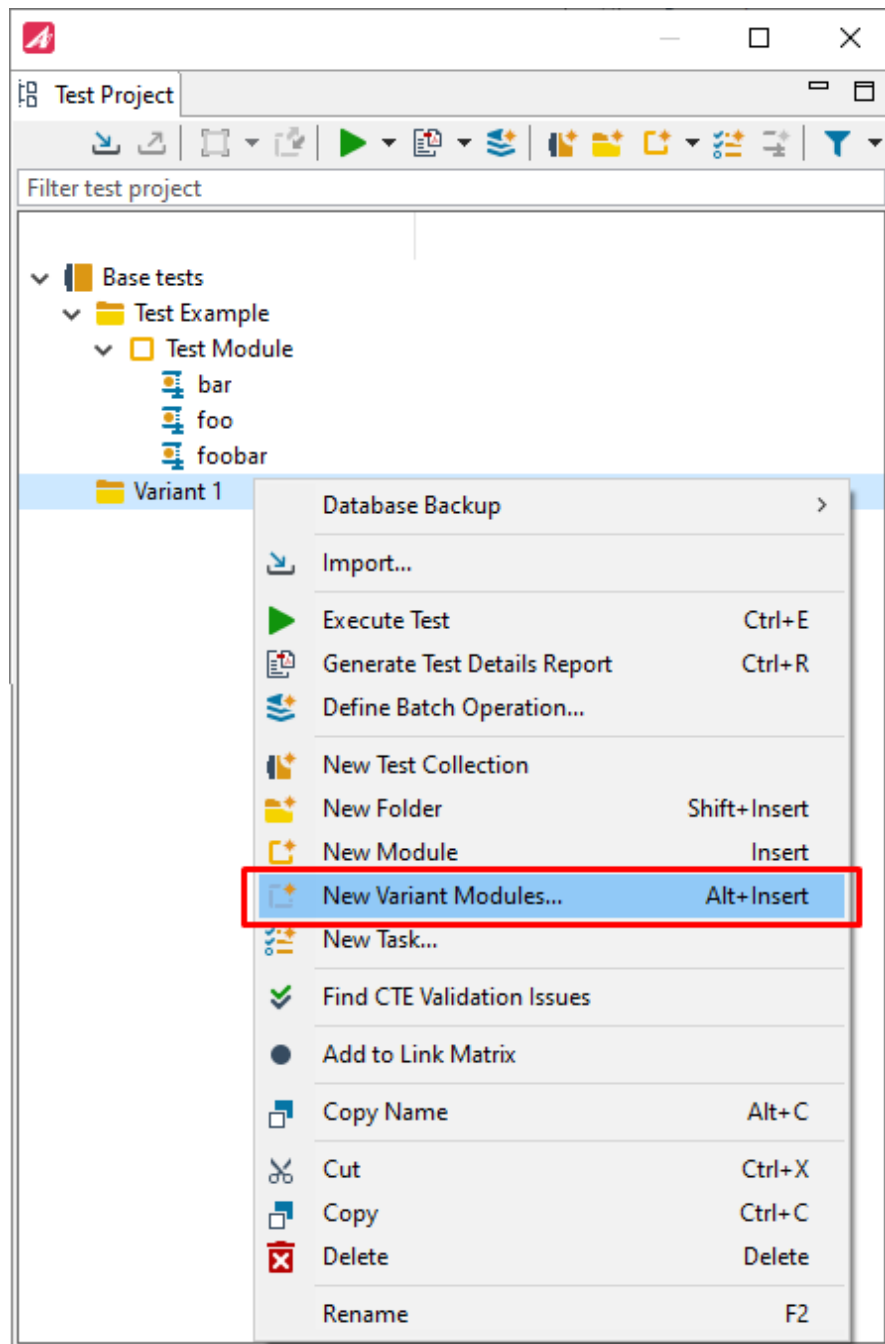

Figure 6.24: Create Variant Modules
- Right-click on the folder and select “New Variant Modules” from the context menu (see figure 6.24).